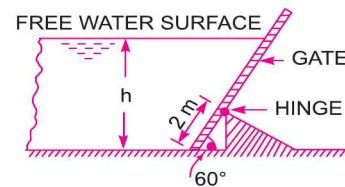

Fig. 3.56
16. A gate supporting water is shown in Fig. 3.56. Find the height 'h' of the water so that the gate begins to tip about the hinge. Take the width of the gate as unity.